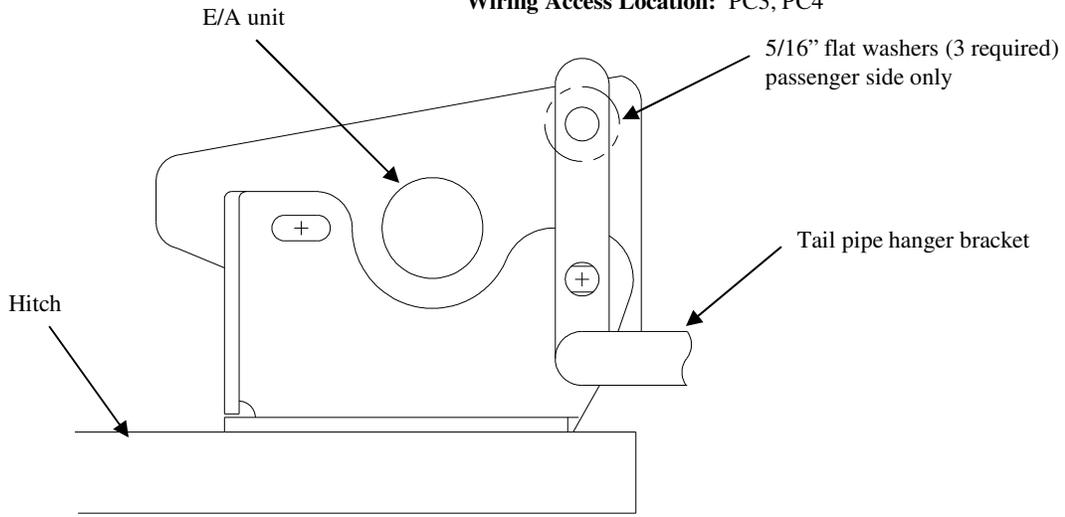
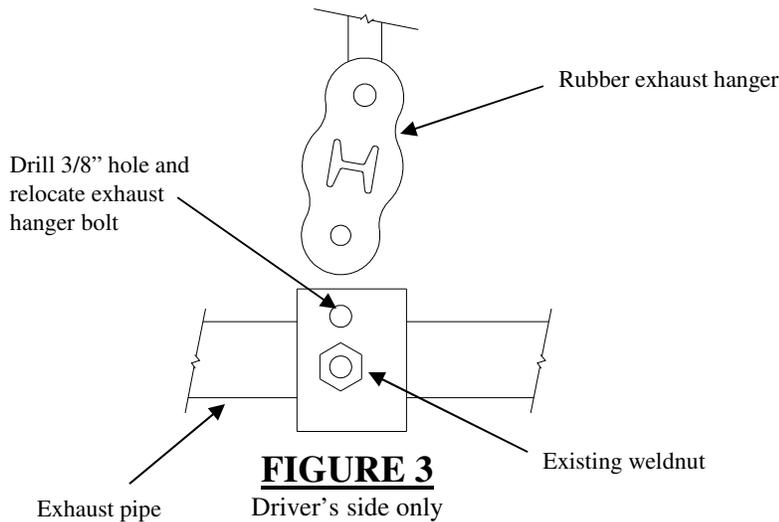

FIGURE 2
FIGURE 3
①	Qty. (2)	U-Bolt 3/8"	④	Qty. (5)	Hex bolt M8 x 1.25 x 55mm GR9.8
②	Qty. (4)	Conical washer 3/8"	⑤	Qty. (8)	Flat washer 5/16"
③	Qty. (4)	Hex nut 3/8"	⑥	Qty. (5)	Hex nut M8 x 1.25
2. Position hitch on vehicle and loosely install M8 E/A bolts provided. On pre-1992 models the exhaust pipe may make contact with hitch side arm on driver's side, remove exhaust pipe hanger bracket bolt to lower exhaust. Drill 3/8" hole 1" above existing weldnut hole in bracket (see Figure 3). Reattach exhaust to bracket through 3/8" hole using existing bolt and M8 nut.
4. Remove hitch from vehicle and drill the two (2) 1/2" holes in both sides of frame. Install two (2) 3/8" u-bolts into the frame.
7. Use three (3) 5/16" flat washers provided to shim space between tail pipe bracket and the upper outboard attachment for E/A unit on passenger side. Use fasteners provided to attach tail pipe hanger bracket, see Figure 2.